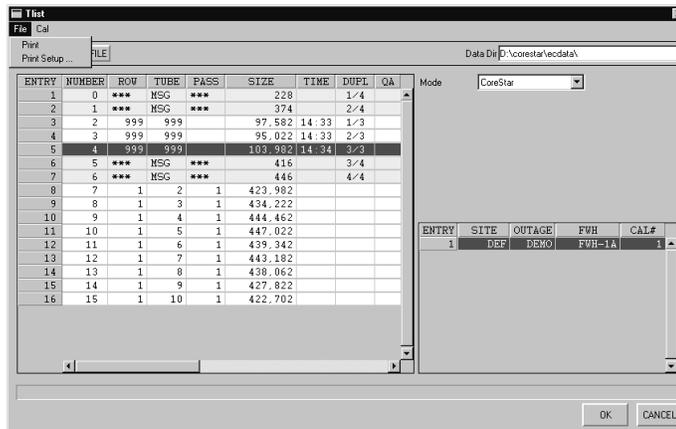

Figure 3-52. File Menu in TLIST Dialog
- **TLIST Menu Bar:** The **TLIST** dialog has two pull-down menus named **File** and **Cal**. The menus are shown in Figures 3-52 and 3-53.